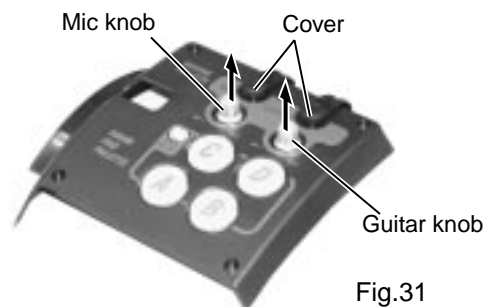

Fig.31
■ Removing the mic & guitar volum board / mic / guitar jack board / drum key board (See Fig.31 to 35)